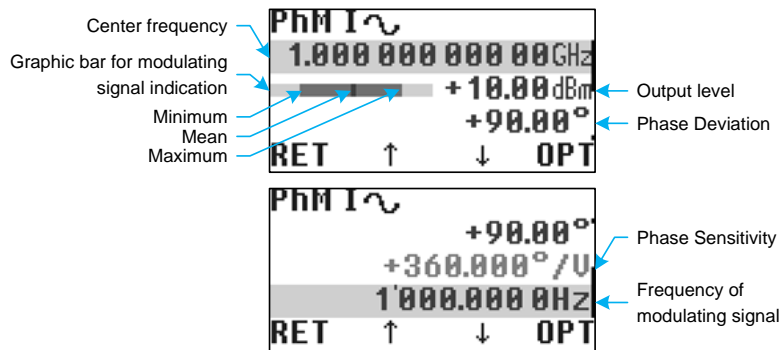

Figure 20: Phase modulation mode (Operation Modes▷Phi Modulation)
Phase modulation mode has the following parameters (fig. 20):
In PhM mode the min, max and mean values of modulating signal are displayed on the screen in form of graphic bar (fig. 20).
- PhM Deviation, PhM Sensitivity, Int Source Freq – these sub-menu items duplicate the corresponding items shown in fig. 20.